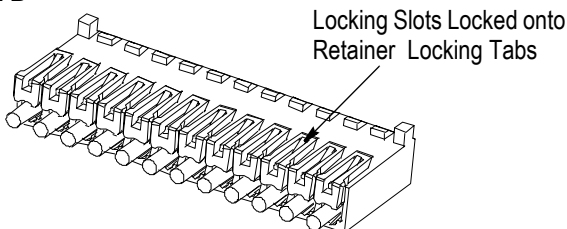

Figure 4
b. Align the retainer with the housing so that the ends of the locking slots face the retainer locking tabs of the housing and the long legs of the retainer are on top of the wires. See Figure 4, Detail A.
c. Slide the break-away retainer onto the housing evenly until the locking slots lock onto the retainer locking tabs of the housing. There will be an audible "click". See Figure 4, Detail B.